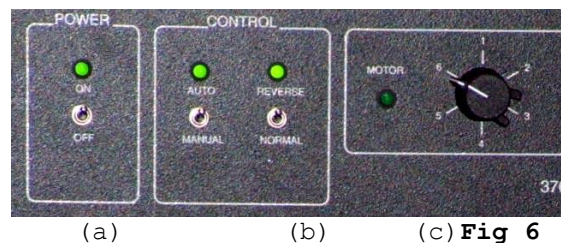

Fig 7
26. Choose program [Fig 7] making any necessary changes.
28. Wait for PROCESS READY on LCD panel. [Fig 7]